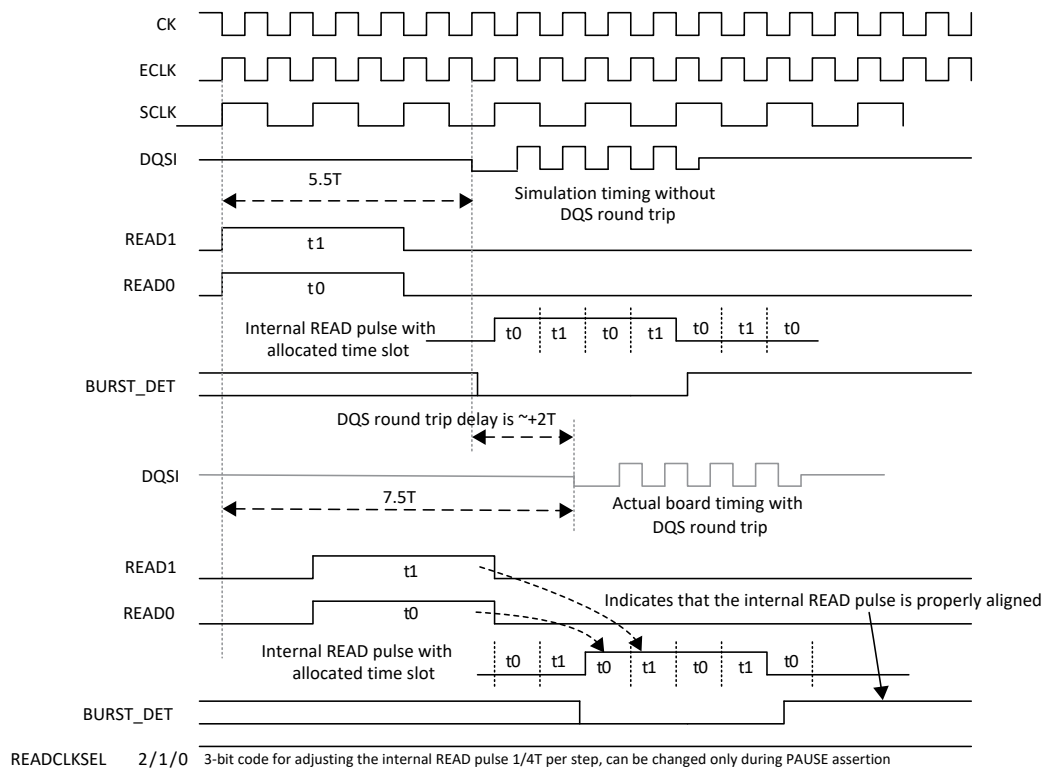

Figure 6.7. READ Signal Training Process
1. The memory controller sets READ1/0 to an initial position before starting the read pulse training. READ1/0 must be asserted for the number of SCLK cycles that is equal to one-fourth of the current read burst length as listed in Table 6.3. Each READ bit (READ1 or READ0) in the system clock domain is translated to an 1T time slot of the memory clock domain as shown in Figure 6.7.
- To shift the READ pulse timing window, READ1/0 can be moved to the next cycle. If a READ bit is asserted in the next cycle while the other READ bit remains in the current cycle, only the corresponding time slot on the READ pulse moves to the next allotted slot. Therefore, only READ0 must be moved to the next cycle if the READ pulse needs to be shifted only by 1T. However, if only READ1 is moved to the next SCLK cycle, then the READ pulse gets two short pulses in wrong timing. Since READCLKSEL2/1/0 covers a whole 2T timing, it is recommended that both READ1 and READ0 are moved to the next cycle together to shift the READ pulse to the next 2T window as the example shown in Figure 6.7.
Figure 6.7 shows an example of a burst length 8 (BL8) read operation. The bottom side of the diagram indicates the case that the incoming DQS (DQSI) gets slightly more than 2T delay after a round trip. Due to this round trip delay, both READ1 and READ0 need to be shifted to the next SCLK cycle so that the internal READ pulse gets a 2T shift. Then, the READCLKSEL2/1/0 signals can be used to fine tune the READ signal position throughout the training process. When any of READCLKSEL2/1/0 is changed at any time after a system reset, the PAUSE input to DQSBUFM must be asserted before 4T of the change and remain asserted for another 4T after the change to avoid glitches and malfunction.